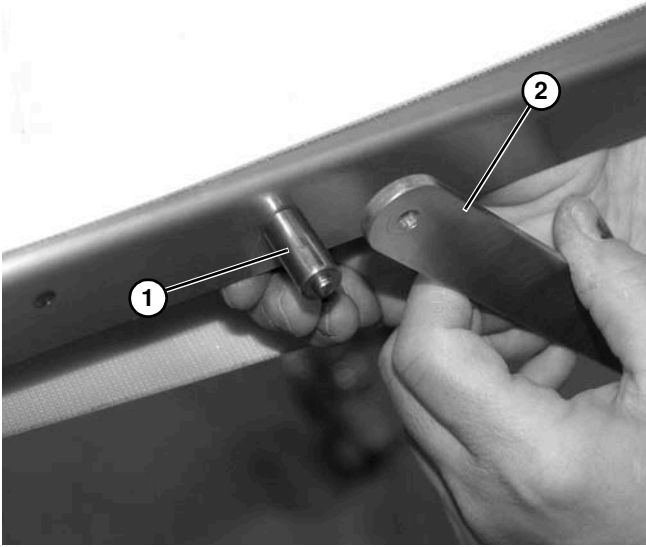

Figure 9
3. Install spacer (**Figure 9, item 1**) and brace (**Figure 9, item 2**) onto carriage bolt.